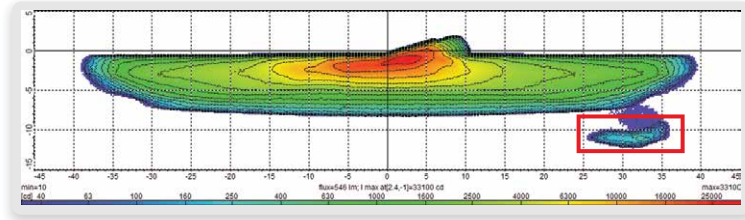

Figure 4. The low beam pattern with marked region [25,37]x[-9,-13]
Step 3: We select interesting regions (scattered light) with a rectangle at the candela sensor display in Figure 4.